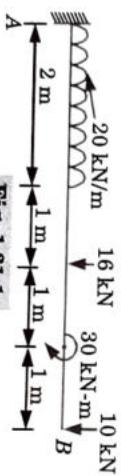

Fig. 1.31.1.
**Que 1.31.]** Draw the SFD and BMD of the loaded beam as shown in Fig. 1.31.1.
**Given :** Fig. 1.31.1.